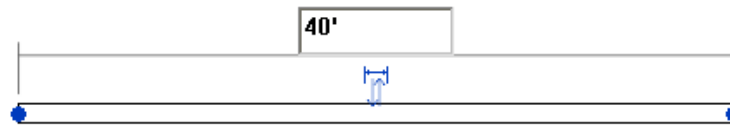

Figure 3-34 Modifying the length of a wall segment using temporary dimensions
2. Enter **40' (12192 mm)** in the edit box, as shown in Figure 3-34 and then press ENTER; the length of the wall is modified to 40'0" (12192 mm). Press ESC to exit the **Modify | Walls** tab.